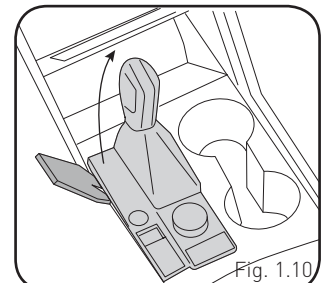

Fig. 1.10
- Using a panel tool, pry outward on the trim panel around shifter. Disconnect the harness from the start/stop switch. (Fig. 1.10)